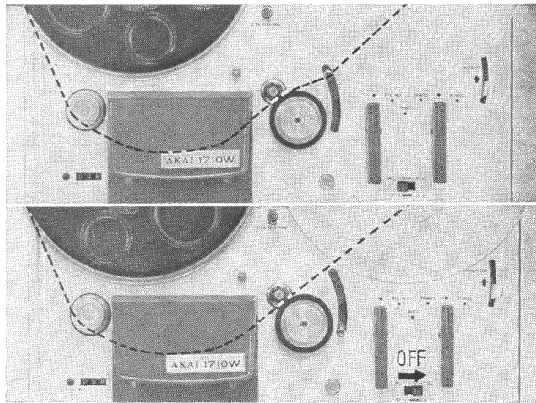

Fig. 3
Thread the tape as shown by the dotted line in Fig. 3 ④.
If the automatic shut off is not required, thread the tape as shown by the dotted line in Fig. 3 ①④.